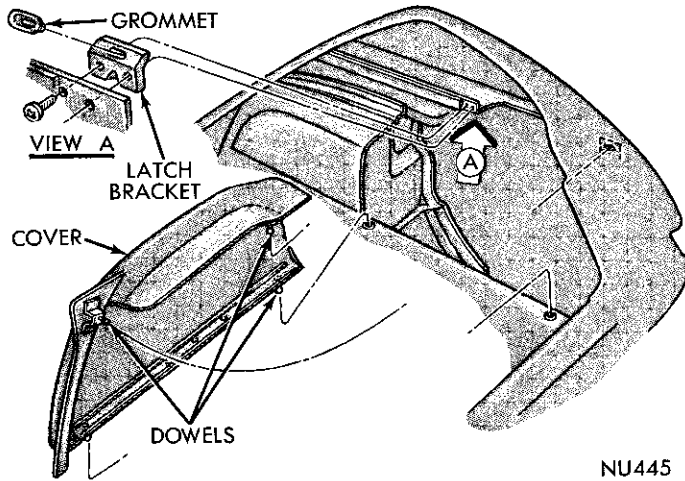

Fig. 78—Spare Tire Cover Assembly
- (1) Remove spare tire cover assembly (Fig. 78).